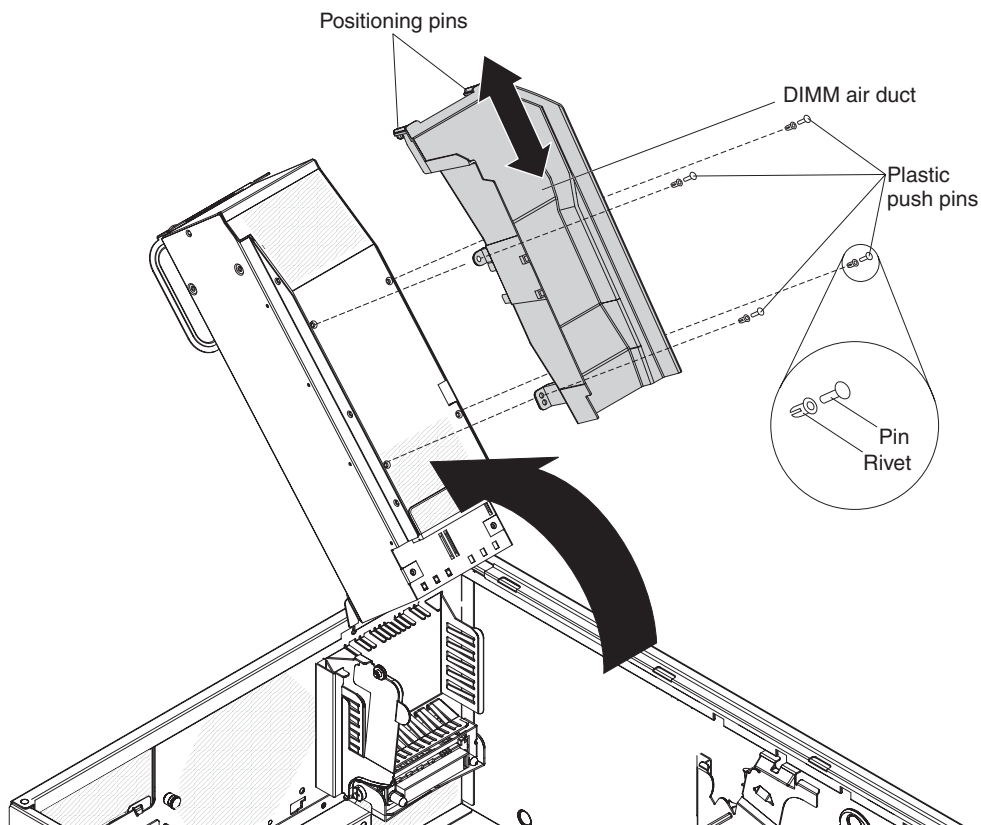

Figure 1. Removing the DIMM air duct
- b. Grasp the rivets (see Figure 1 on page 161) and pull them out of the mounting hole and set them to the side.
3. Use the plastic push-pins and rivets to secure the air duct to the power supply cage (see Figure 1 on page 161). Place the rivets in the mounting holes and then insert the push-pins in the rivets. Press the push-pins all the way down to lock the rivets in place.